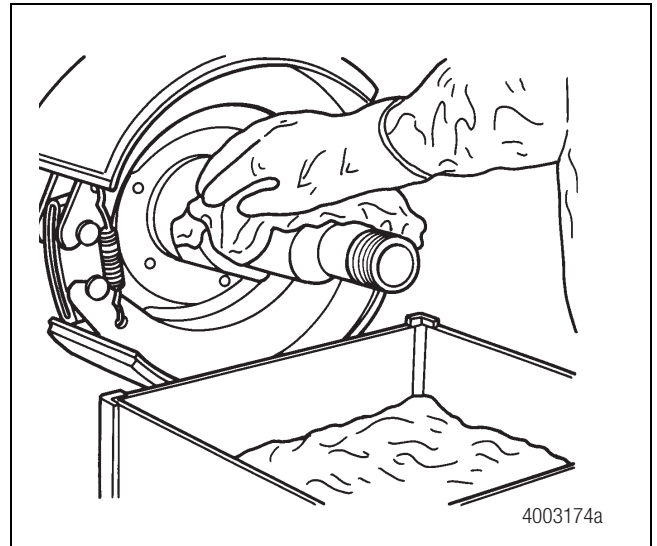

Figure 4.1
1. Use a solvent cleaner to clean machined parts and surfaces, such as axle spindles and camshaft journals. Do not use a hot solution tank with water, steam or alkaline solutions. This will cause corrosion. Figure 4.1.